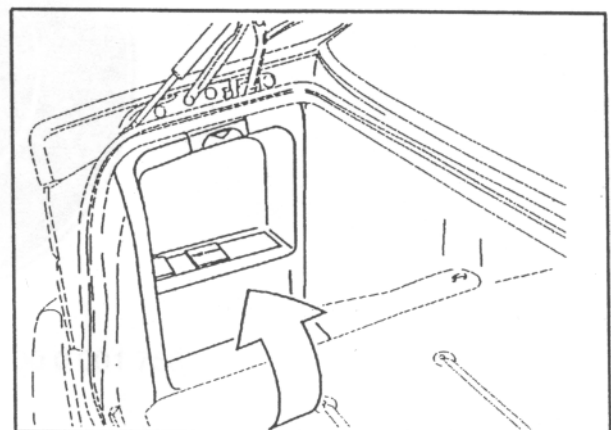

Figure 9
10. Remove tray pocket from CD changer Trunk Trim Cover and place CD changer trunk trim bezel over CD changer (See Figure 9).